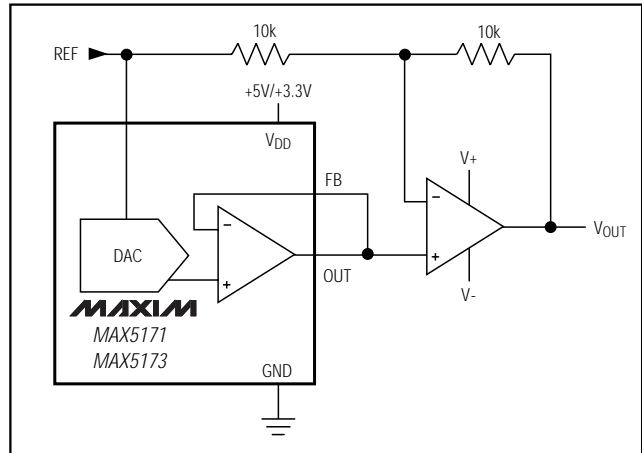

Figure 7. Bipolar Output Circuit
Figure 7 shows the MAX5171/MAX5173 configured for bipolar output operation. The output voltage is given by the following equation ( $\text{FB} = \text{OUT}$ ):
where N represents the numeric value of the DAC's binary input code and  $V_{\text{REF}}$  is the voltage of the external reference. Table 3 shows digital codes and the corresponding output voltage for Figure 7's circuit.
**Table 3. Bipolar Code Table (Circuit of Figure 7)**